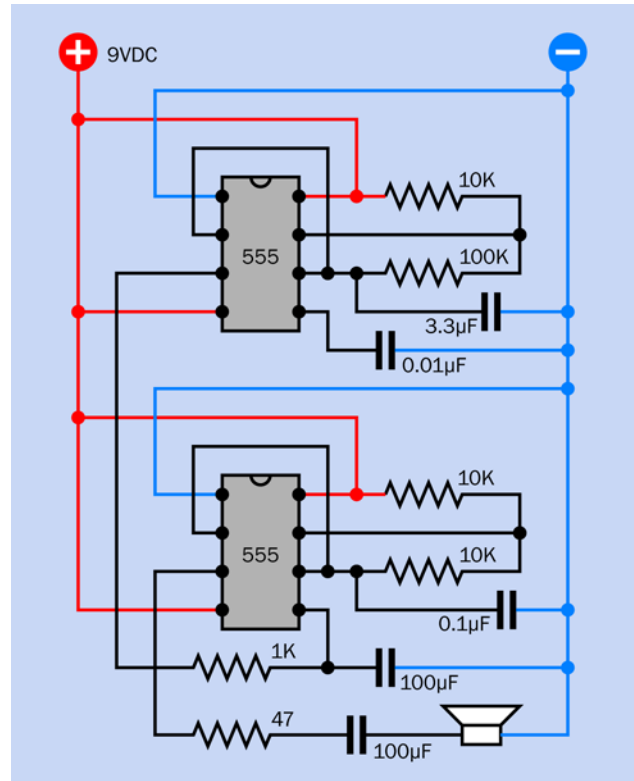

Figure 4-36 When one timer runs relatively slowly, modulating another through its control pin (pin 5), the result is a wavering sound like an alarm siren.
The circuit is shown in Figure 4-36. Timer 1 is wired in a basic astable circuit, which you can recognize as being similar to the circuit in Figure 4-22. The component values are larger, so the timer oscillates more slowly, around 1Hz. You can compare this circuit with the one that I suggested in Figure 2-120. The principle is similar.
- Components shown in Figure 4-36